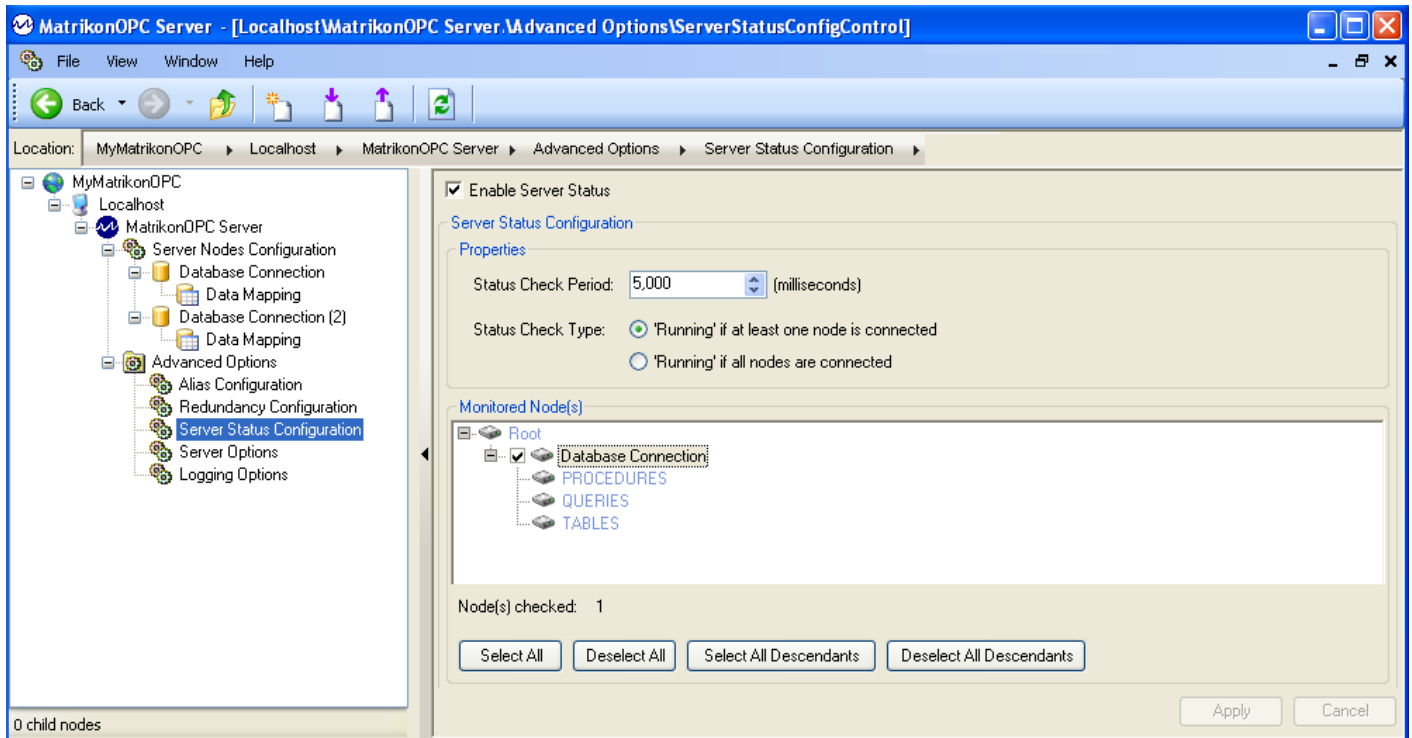

Figure 47 - Server Status Configuration Page
Figure 47 displays the settings available for configuring the Server Status node.
3. The **Server Status Configuration** page (Figure 47) appears on the right side of the screen.